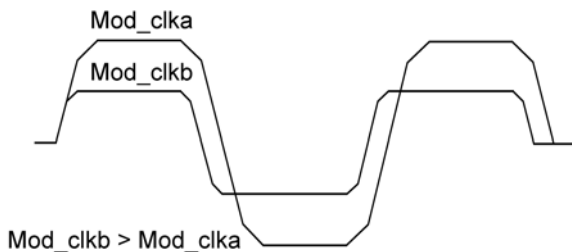

Figure 20. Two Different Modulator Clock Settings
Having $f_{\text{MOD_CLK}}$ set at 8 times the bit rate corresponds to a baseband data signal filtered in a Gaussian filter with a bandwidth-period product (BT) of 1. When BT is increased, the waveform will be less filtered. Figure 20 shows two waveforms with BT=1 (the minimum, with $f_{\text{MOD_CLK}}$ at 8 times the bitrate) and BT=2 (with $f_{\text{MOD_CLK}}$ at 16 times the bit rate). Changing BT changes the charge and discharge times and therefore the frequency deviation, as seen in Figure 20.